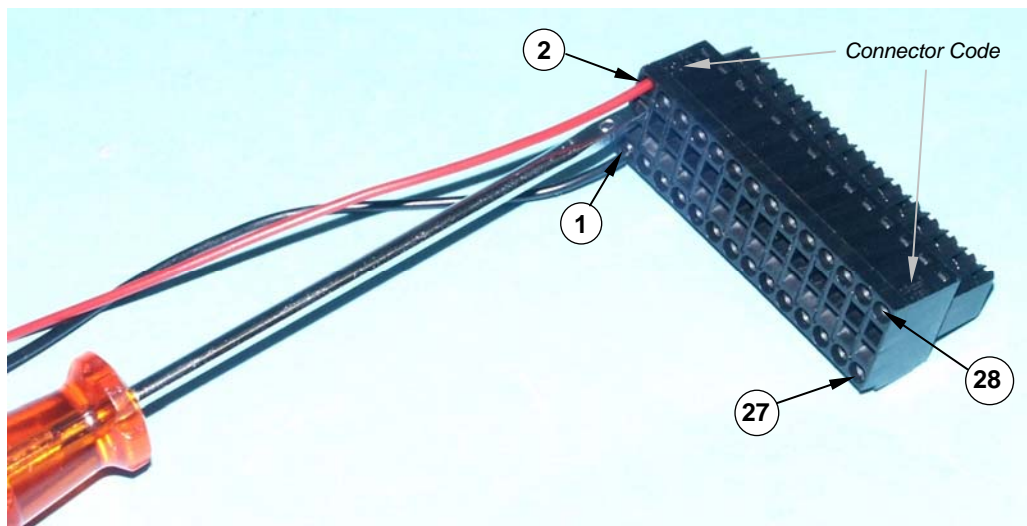

Figure 29: PLC connector
3. Connect the PLC connector (*Figure 29*) to the controller.